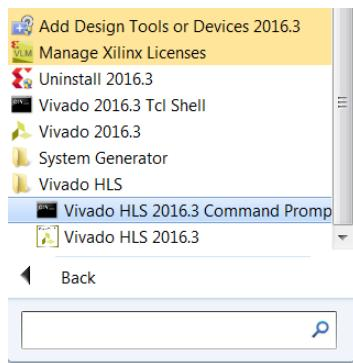

Figure 7-1: Vivado HLS Command Prompt
- On Windows use **Start > All Programs > Xilinx Design Tools > Vivado 2018.2 > Vivado HLS > Vivado HLS 2018.2 Command Prompt** (Figure 7-1).